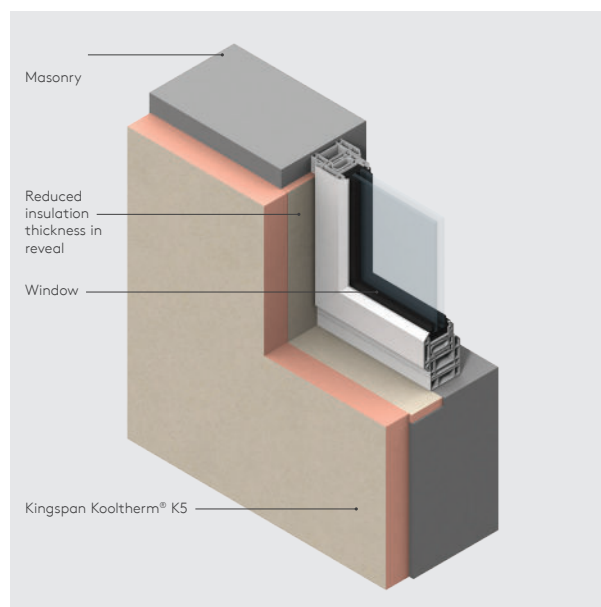

Figure 7
- Reveals should be designed to accommodate the 25 mm of Kingspan Kooltherm® K5 required to achieve a minimal thermal resistance of  $0.6 m^2K/W$ , and the depth of the cladding system (see Figure 7).
- Care should be taken to install the specified thickness of insulation around reveals (see Figure 7).